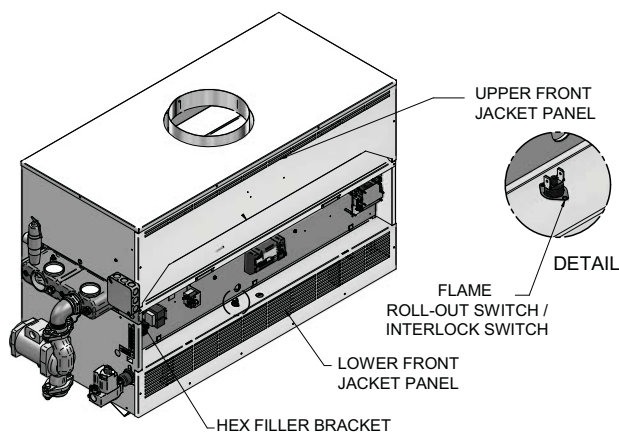

Figure 8-2 Outer Air Deflector and HEX Filler Bracket
- d. Remove the outer air deflector (FIG. 8-2).
- g. Disconnect the wiring from the flame rollout/interlock switch, see FIG. 8-2, page 61.
- r. Remove the heat exchanger (HEX) filler bracket (FIG. 8-2).